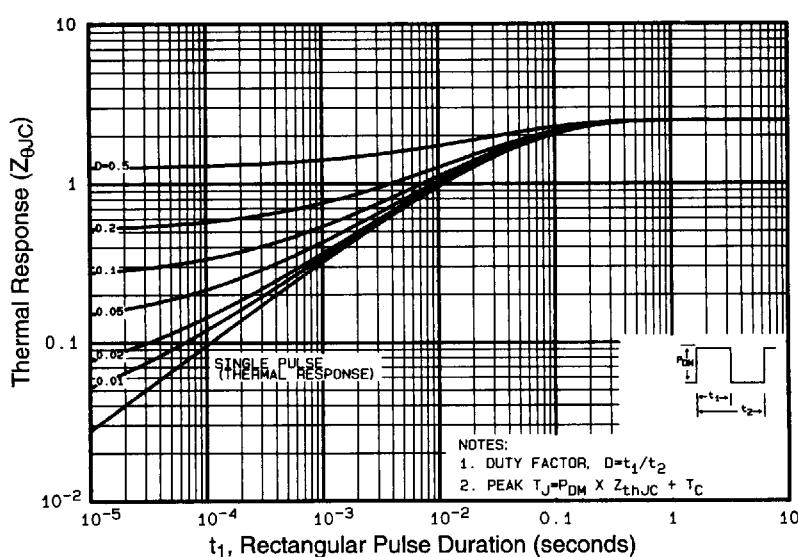

Fig 11. Maximum Effective Transient Thermal Impedance, Junction-to-Case
① Repetitive rating; pulse width limited by max. junction temperature (See Figure 11)
③ $I_{\text{SD}} \leq 4.4\text{A}$, $dI/dt \leq 90\text{A}/\mu\text{s}$, $V_{\text{DD}} \leq V_{(\text{BR})\text{DSS}}$, $T_J \leq 150^\circ\text{C}$
② $V_{\text{DD}}=50\text{V}$, starting $T_J=25^\circ\text{C}$, $L=8.3\text{mH}$